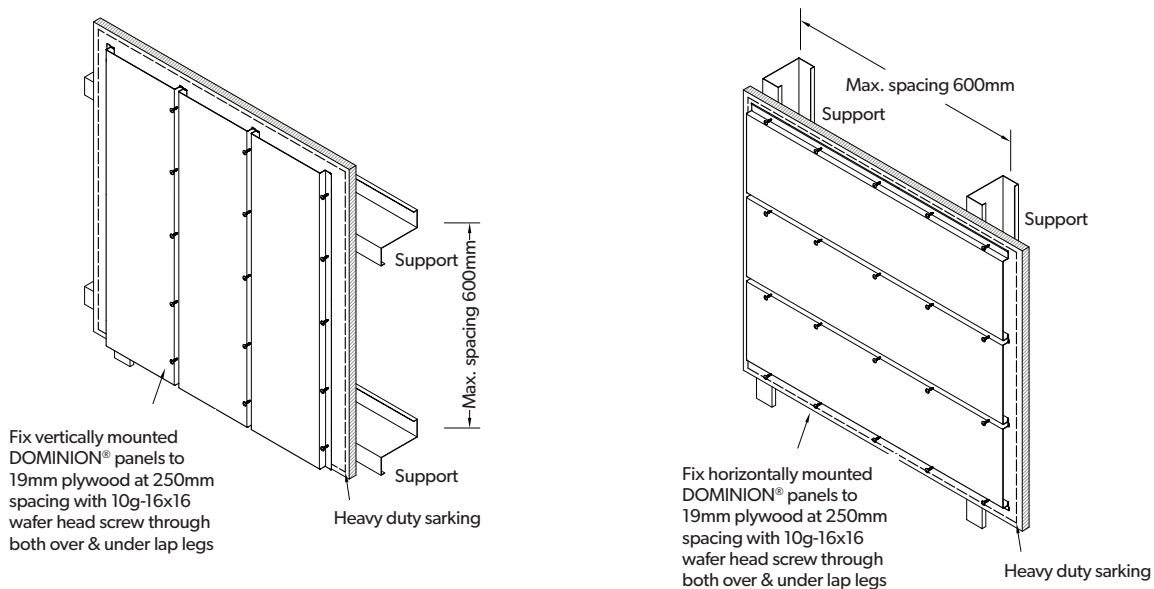

Figure 13.2.5:
3. The membrane must be hung and sealed at the top. It must be free of ripples and puckers with holding battens between the 40mm vertical battens securing it to the supporting member. Figure 13.2.5.